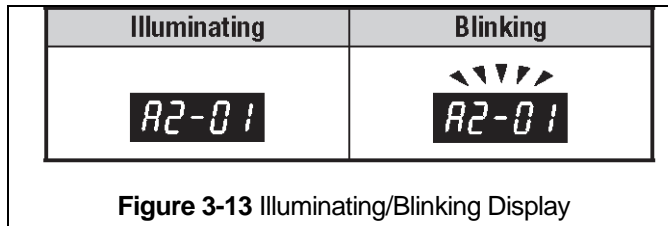

Figure 3-13 Illuminating/Blinking Display
3.5.6 During operation the data display will exhibit illuminating or blinking data as shown in **Figure 3-13**.